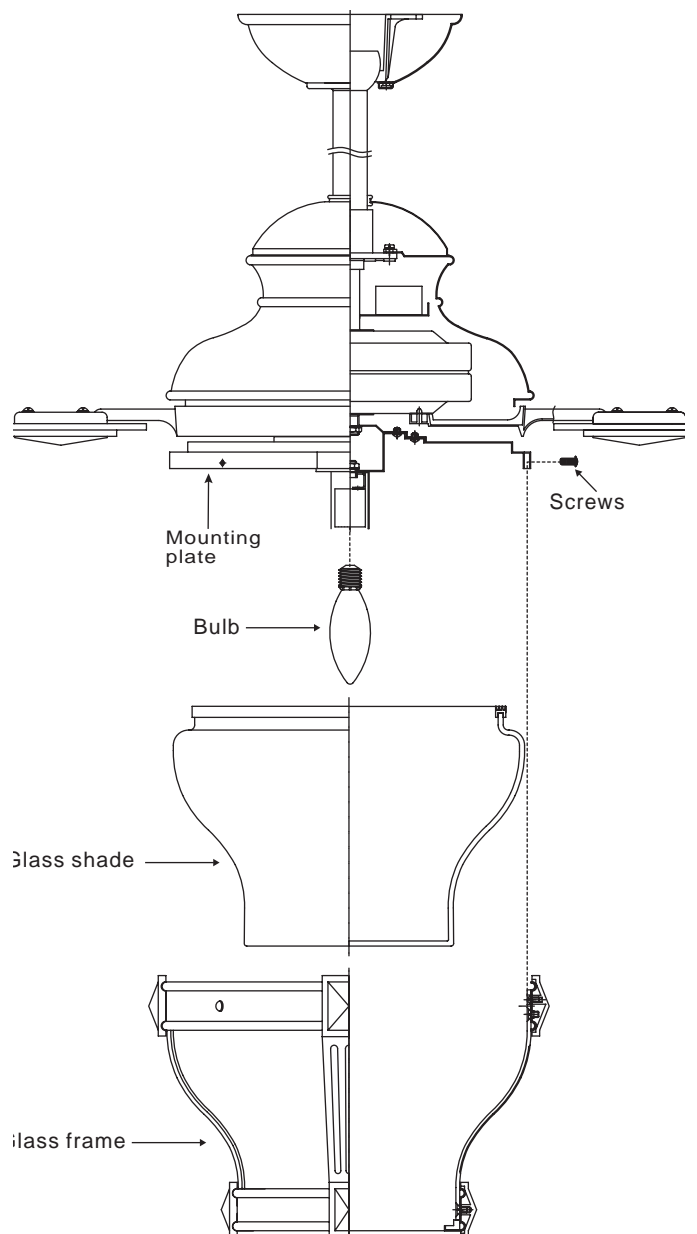

Figure 18
1. Install 1 x 60w candelabra bulb (not included). (Fig. 18)
2. Raise the glass shade and glass frame up against the mounting plate and secure tightly with the screws provided. (Fig. 18)